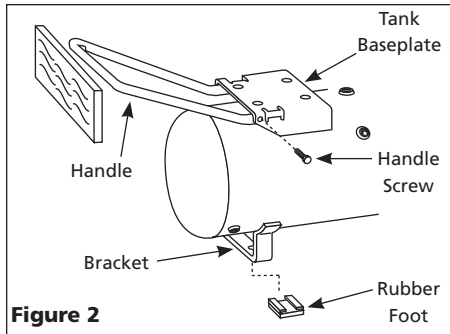

Figure 2
2. Insert handle into both sides of tank baseplate. Squeeze handle to fit into special openings in baseplate (See Figure 2).